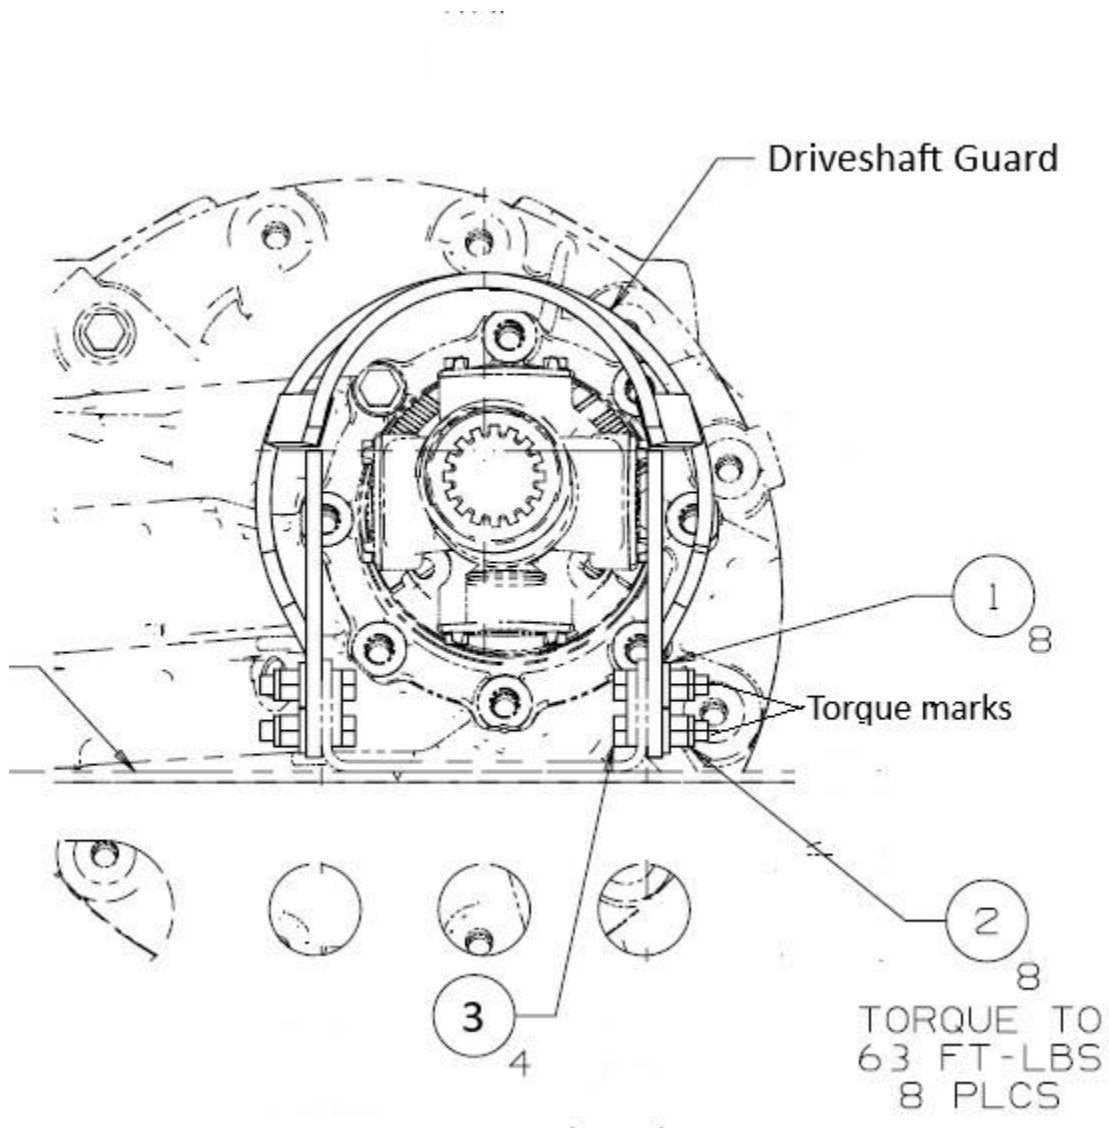

Figure 1: Driveshaft guard installation reference.
2. Install 4ea. driveshaft guard bolt assembly (Item #3) and secure using 8ea. ½ flat washers (Item #1), and 8ea. ½ hex nuts (Item #2). Torque hardware to 63 ft-lbs. and apply torque indicator marks across the bolt and nuts. See figure 1.